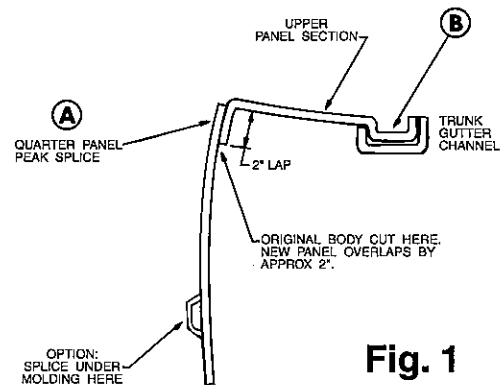
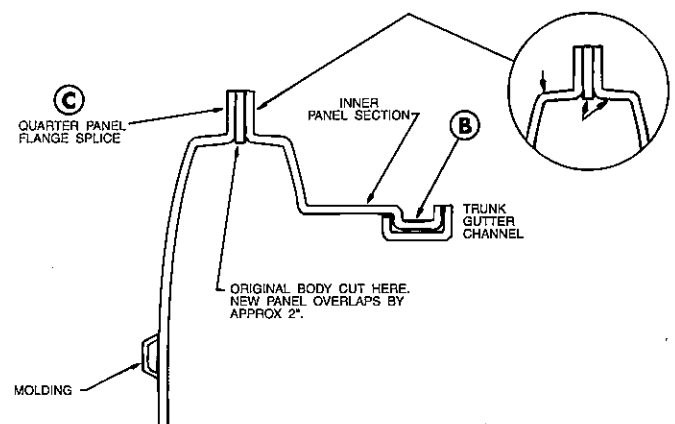

Fig. 1
Fig. 2
- Spot Welding Operation** - Figure 1 and Figure 2 show two basic types of welding joints common to almost every panel job.